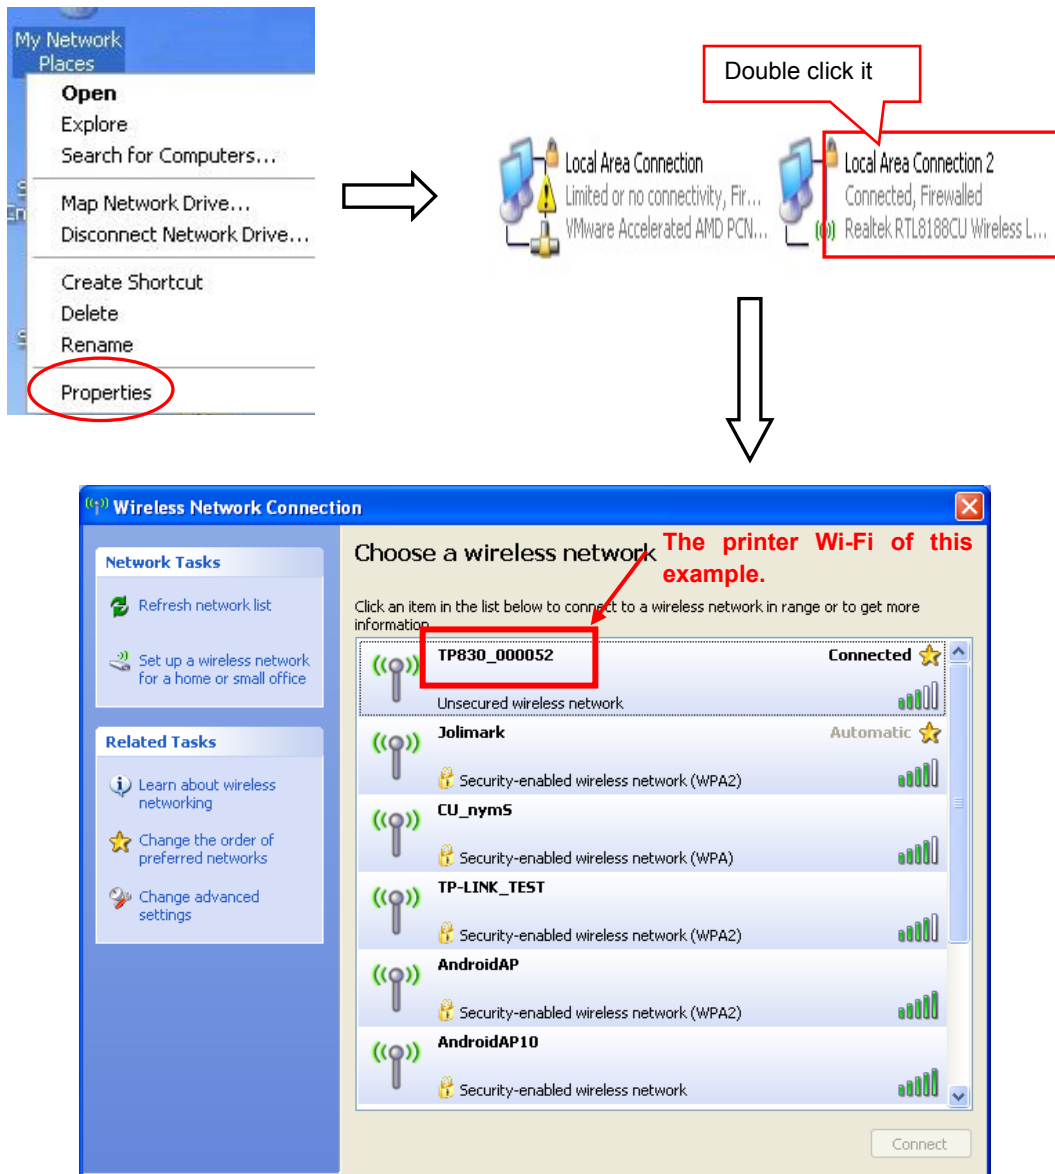

Figure 1
2. Right click "My Network Places", and then click "Properties" to find the "Local Area Connection 2". Double click it and the window of "Wireless Network Connection" pops up, select and double click the corresponding printer Wi-Fi name. The printer Wi-Fi default name is composed of "the printer model+6 numbers and letters" (as shown in Figure 1)